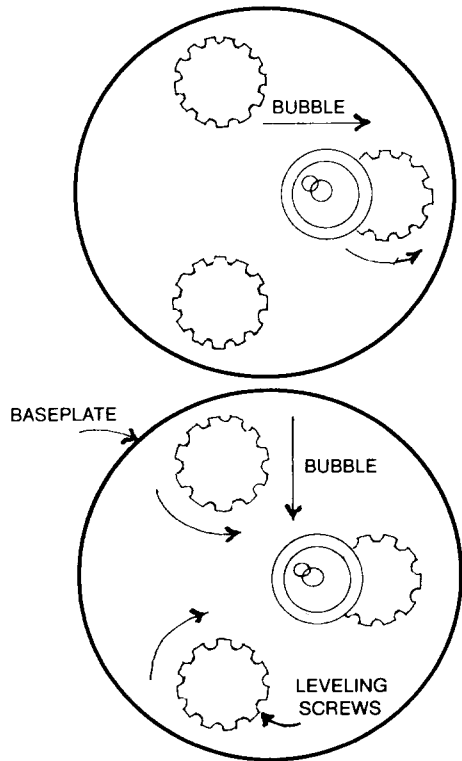

Figure 21. - Centering the bubble.
3. Move the leveling screws one at a time or in pairs to bring the bubble into the target circle on the vial (fig. 21). Rotate the scope 90° and re-level. Start by leveling across two of the screws and finish with the third screw after making the 90° degree turn.